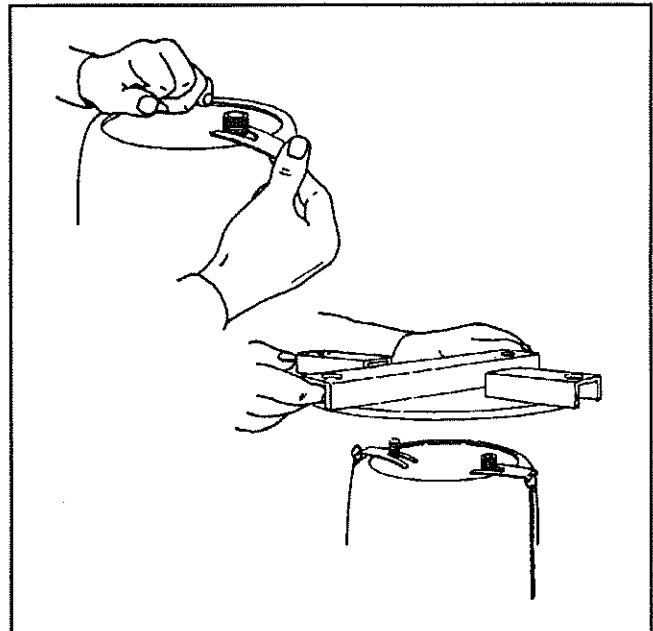

FIG. 14
5. Use tool #19-0002, place the bellows inside the tool and apply air pressure (90 psi/620 kPa) in order to seat the bellows assembly components (see fig. 14, 15 and 16).